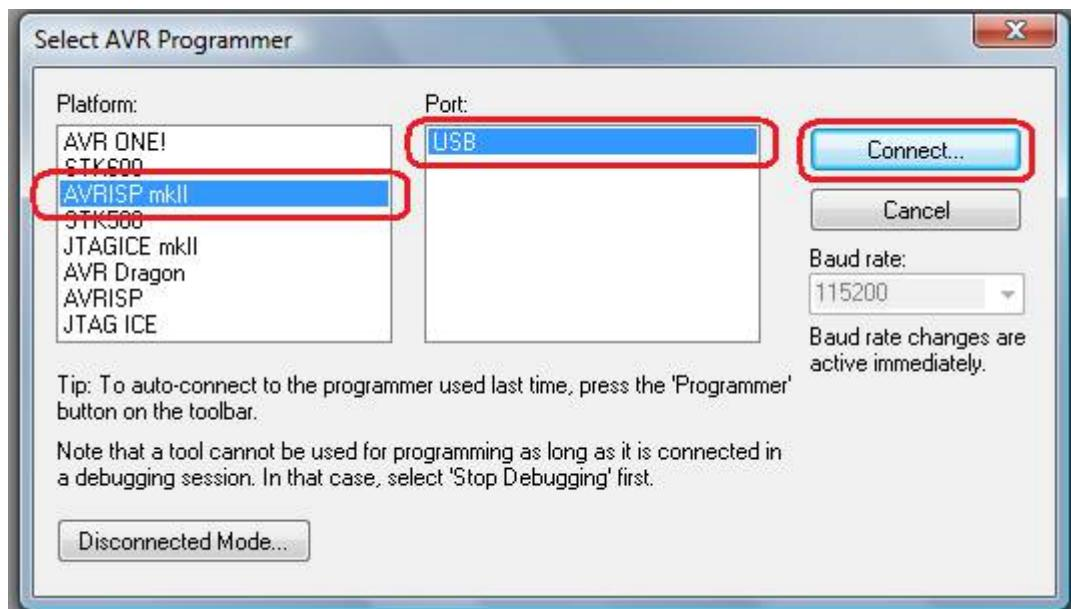

Figure 2.43
4. Window as shown in figure 2.43 will open.